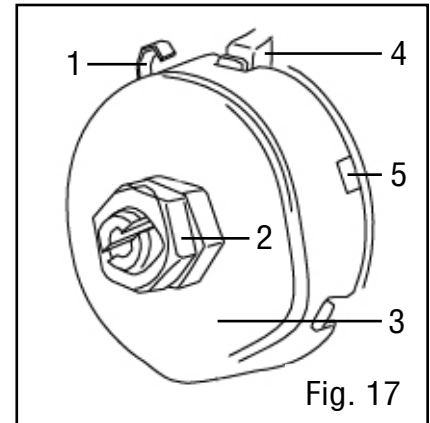

Fig. 17
SPINDLE RETURN SPRING (FIG. 17)
2. Place a screwdriver into the loop (Fig. 17 - 1) to hold the spring in place.
3. Loosen the two housing nuts (Fig. 17 - 2) approximately 1/4" (6 mm). Do not remove the nuts from the threaded shaft. Do not allow the spring or spring housing to slip out of control.
4. While firmly holding the spring housing (Fig. 17 - 3), carefully pull spring housing out until it clears the raised stop (Fig. 17 - 4).
5. Turn the housing so that the next notch (Fig. 17 - 5) is engaged with the raised stop (Fig. 17 - 4).